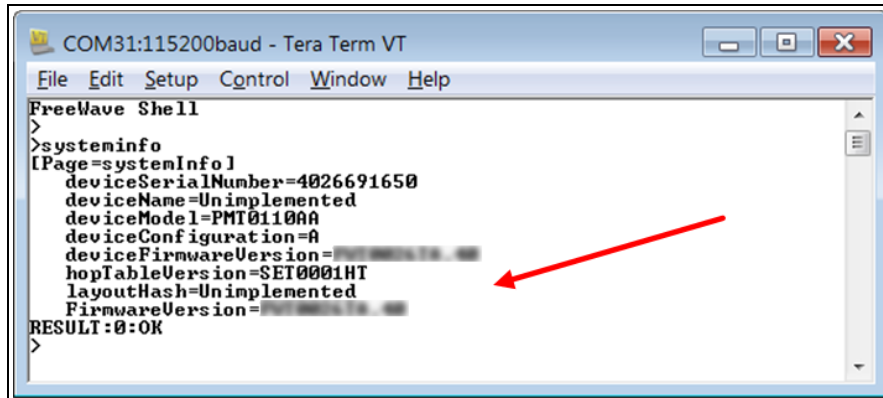

Figure 24: Existing Firmware Version Installed on the Z9-C / Z9-T
12. Optional: At the > prompt, type **systeminfo** and press <Enter> to view the current firmware version on the **Z9-C** or **Z9-T**. **Figure 24**